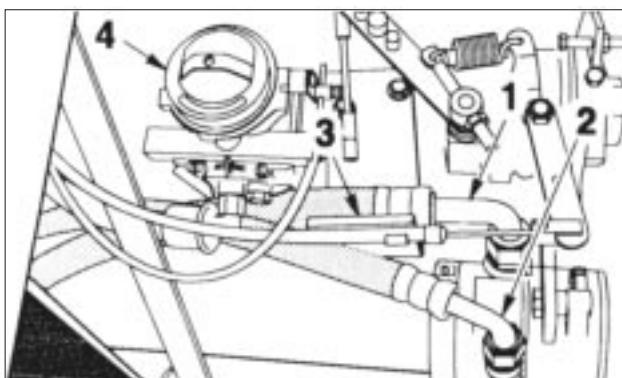

FIG. 6
1. Remove protective caps and connect Refrigeration Line #95-2197 to L.H. (large) port on A/C Compressor. Route refrigeration line inside of Throttle Cable Bracket and away from Carburetor. Route rearward following Blower Wire Harness. See Fig. 6.